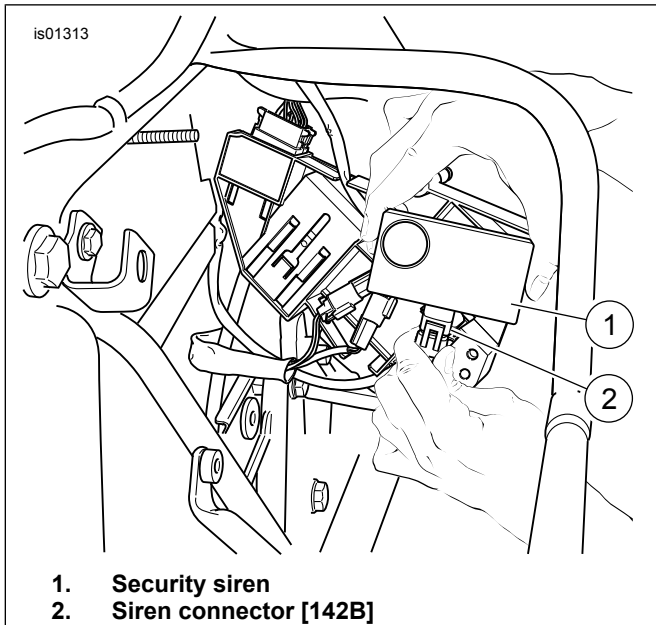

Figure 12. Insert Siren Connector (2002-2007 FL Touring)
- See Figure 12. Insert the security siren connector [142B] (2) into the siren box receptacle until the connector latches securely.